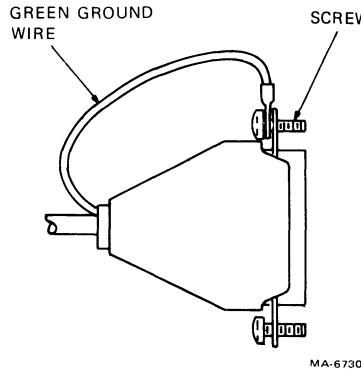

Figure 2-6 EIA Communications Cable Connector
7. Connect the communications cable to the appropriate communications connector. If you select EIA communications, connect the ground wire to the terminal communications connector. Figure 2-6 shows the cable connector with the ground wire connected.
1. Locate and connect the BC22A cable to the HARDCOPY connector on the rear of the VK100 terminal. The connector can only plug in one way. Connect the ground wire to the HARDCOPY connector. Figure 2-6 shows the cable connector with the ground wire connected.
2. Locate and connect the BC26B-01 Y-type cable to the HARDCOPY connector on the last VK100 terminal. The connector can only plug in one way. Connect the ground wire to the HARDCOPY connector. Figure 2-6 shows the cable connector with the ground wire connected.
4. Locate the new BC22B cable. Plug one BC22B cable connector into the male BC26B-01 cable connector. The connector can only plug in one way. Connect the ground wire between the two connectors. Figure 2-6 shows the cable connector with the ground wire connected.
5. Plug the other BC22B cable connector into the HARDCOPY connector on the VK100 terminal being added to the string. The connector can only plug in one way. Connect the ground wire to the HARDCOPY connector. Figure 2-6 shows the cable connector with the ground wire connected.
3. Connect the two cables that were removed from the BC26B-01 Y-type cable. Be sure to connect the cable ground wires between the two connectors. Figure 2-6 shows the cable connectors with the ground wire connected.